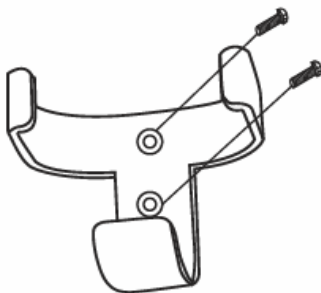

Fig. 10a
1. Locate a suitable wall to fix the remote control holder with the 2 screws. (Fig.10a).